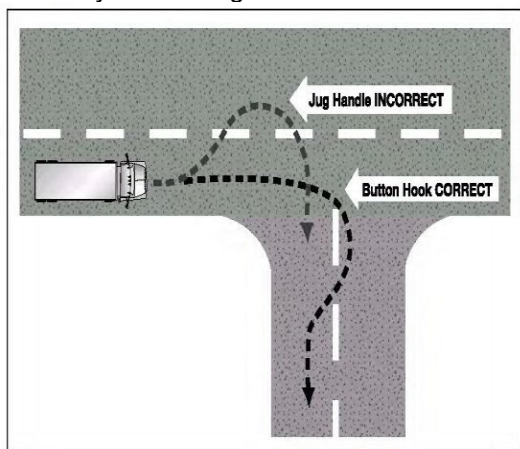

Figure 2.13
- If you must cross into the oncoming lane to make a turn, watch them room to go by or to stop. However, don't back up for them, because you might hit someone behind you. See Figure 2.13.